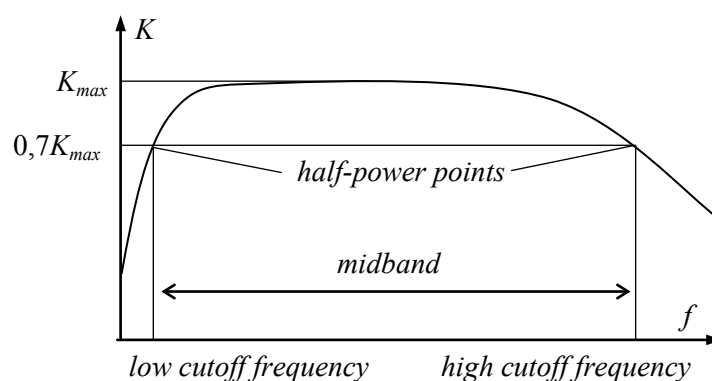

Fig. 2.6
**Frequency response.** Fig. 2.6 shows the typical *frequency response* of an electronic system. This is a graph of the gain or output voltage versus the frequency of a sinusoidal signal. At low and high frequencies, the gain and the output voltage decrease because of the input and output capacitances of the system. In the middle range of the frequencies, the electronic system produces a maximum output signal. The frequencies above and below this middle range are avoided in most applications because of *amplitude distortion* and *frequency distortion*.